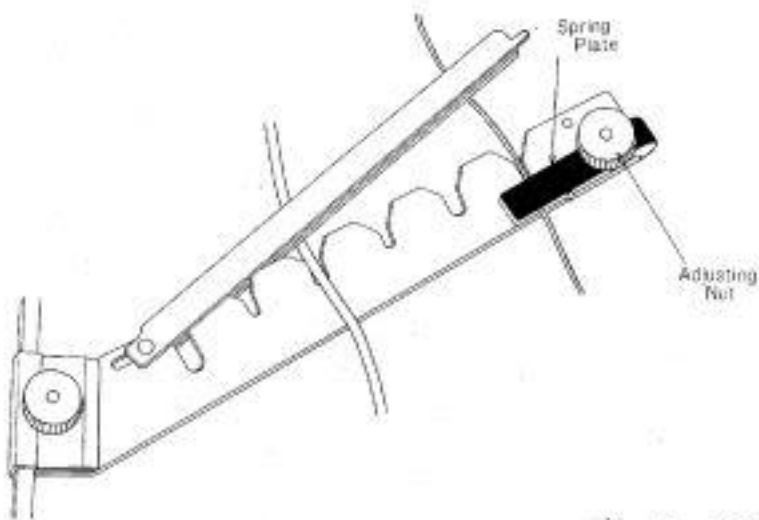

Fig. 147
1. Thread the main colour (preferably cotton or synthetic coloured yarn) through one of the main feeders. The transparent thread, used as the contrasting colour, should be threaded through the special eyelet at the end of the Yarn Guide Arm. After inserting the thread under the spring plate as shown in Fig. 147, pull the thread in order to check if there is sufficient friction on it. If not, adjust by turning the Adjusting Nut—also see Fig. 147. Now, thread overhead feeder in the usual way, down to the other Carriage Feeder.